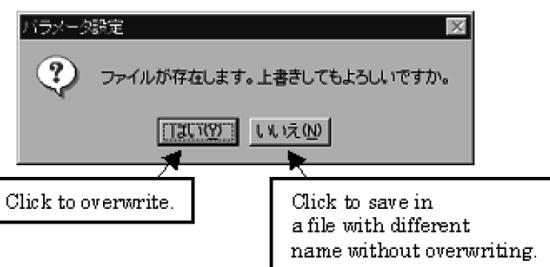

Fig. 9.4.4 Message box
5. Note that if a file having the same name exists, the message box as shown in Fig. 9.4.4 appears. If you want to overwrite, click [はい(Y)] [Yes]. If you do not want to overwrite, click [いいえ(N)] [No], and enter a different file name.